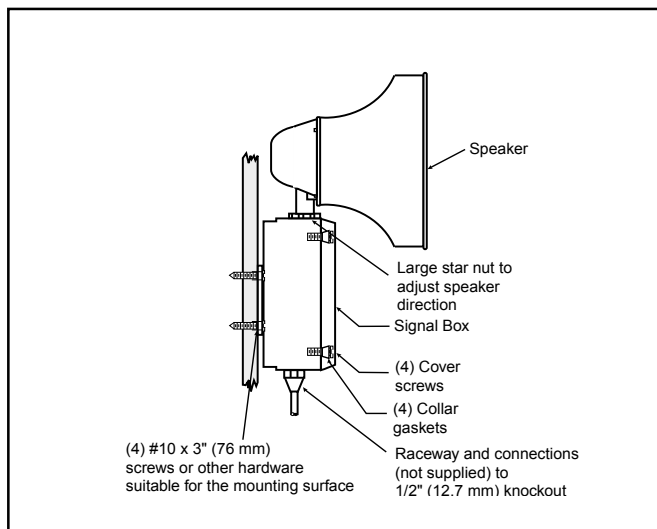

Figure 3. Adaptatone Mounting
- Mount Adaptatone as shown in Figure 3.
- Flat Surface Mounting.** Secure unit to mounting surface using the (4) mounting holes in
- 6. To adjust speaker direction, loosen large star nut (Figure 3) and turn speaker to the approximate desired position. Retighten nut and turn speaker slightly clockwise until locked into place.